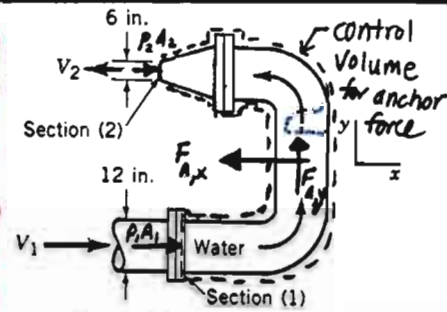

FIGURE P5.34
5.34 Determine the magnitude and direction of the x and y components of the anchoring force required to hold in place the horizontal 180° elbow and nozzle combination shown in Fig. P5.34. Also determine the magnitude and direction of the x and y components of the reaction force exerted by the 180° elbow and nozzle on the flowing water.